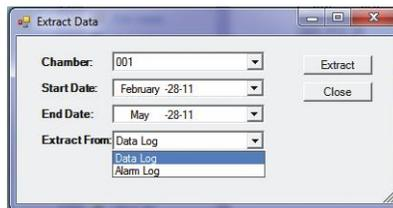

Figure 3-11 Extract From
4. From the **Extract From** dropdown menu (Figure 3-11), select whether the data type to copy is alarm or log files.